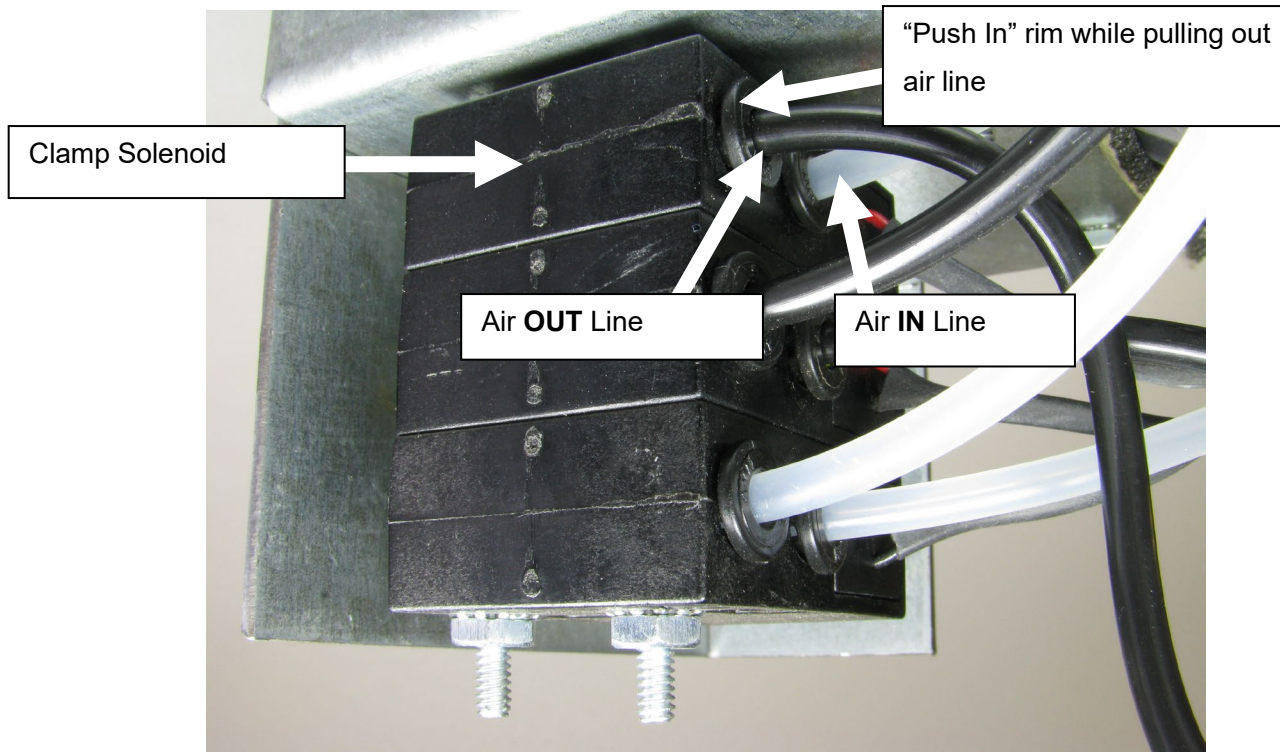

Fig 2
1. REMOVE HOSE FROM TOP OF CLAMP Disconnect power and air from the machine. Remove both air lines from the Clamp Solenoid. **See Fig 2.**